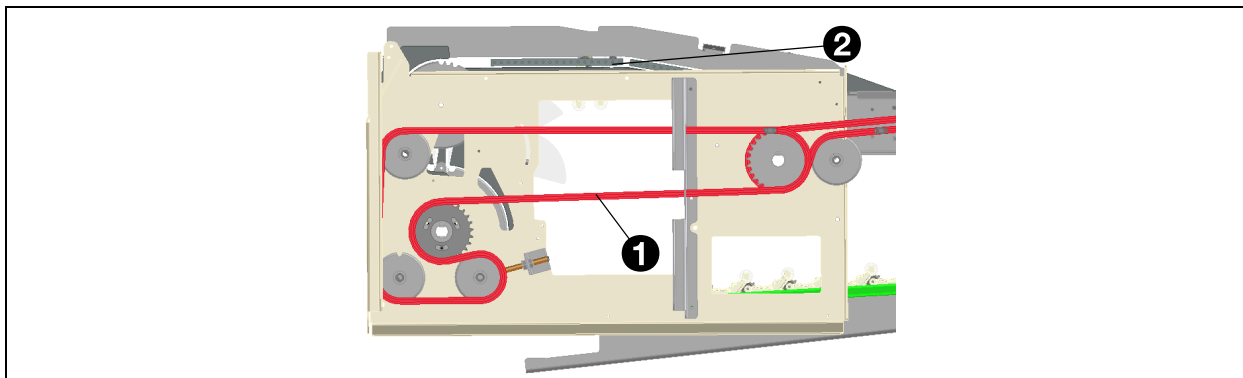

*Fig. 34 - Transport-chain*
3. The play (6) in the transport-chain can amount to a maximum of 5 mm. See fig. 34
4. Adjust the play with the chain-tensioner (7).